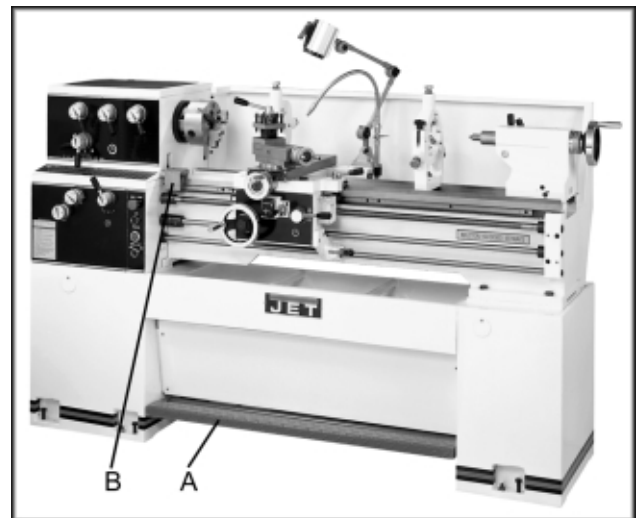

Fig. 16
20. **Foot Brake (A, Fig. 16)** - located between stand pedestals. Depress to stop all lathe functions.
21. **Micro Carriage Stop (B, Fig. 16)** - located on the lathe bed. Loosen two hex socket cap screws underneath body and slide along bed to desired position. Tighten screws to hold in place.